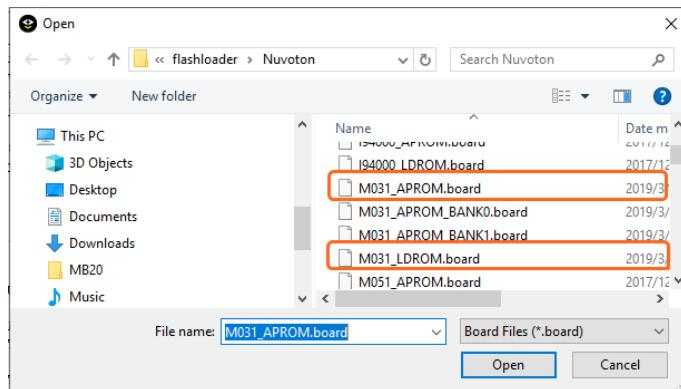

Figure 5.2-30 Select.board File for IAR EWARM
- (6) In the **Download** tab of the **Debugger** page, select the **Override default .board file** option if you want the firmware to be downloaded to APROM or LDROM, and then specify the *M031\_APROM.board* or *M031\_LDROM.board* file (M031 series is used in this case). If no file is founded, specify the following path "\$TOOLKIT\_DIR\$\\config\\flashloader\\Nuvoton", as shown in Figure 5.2-30.